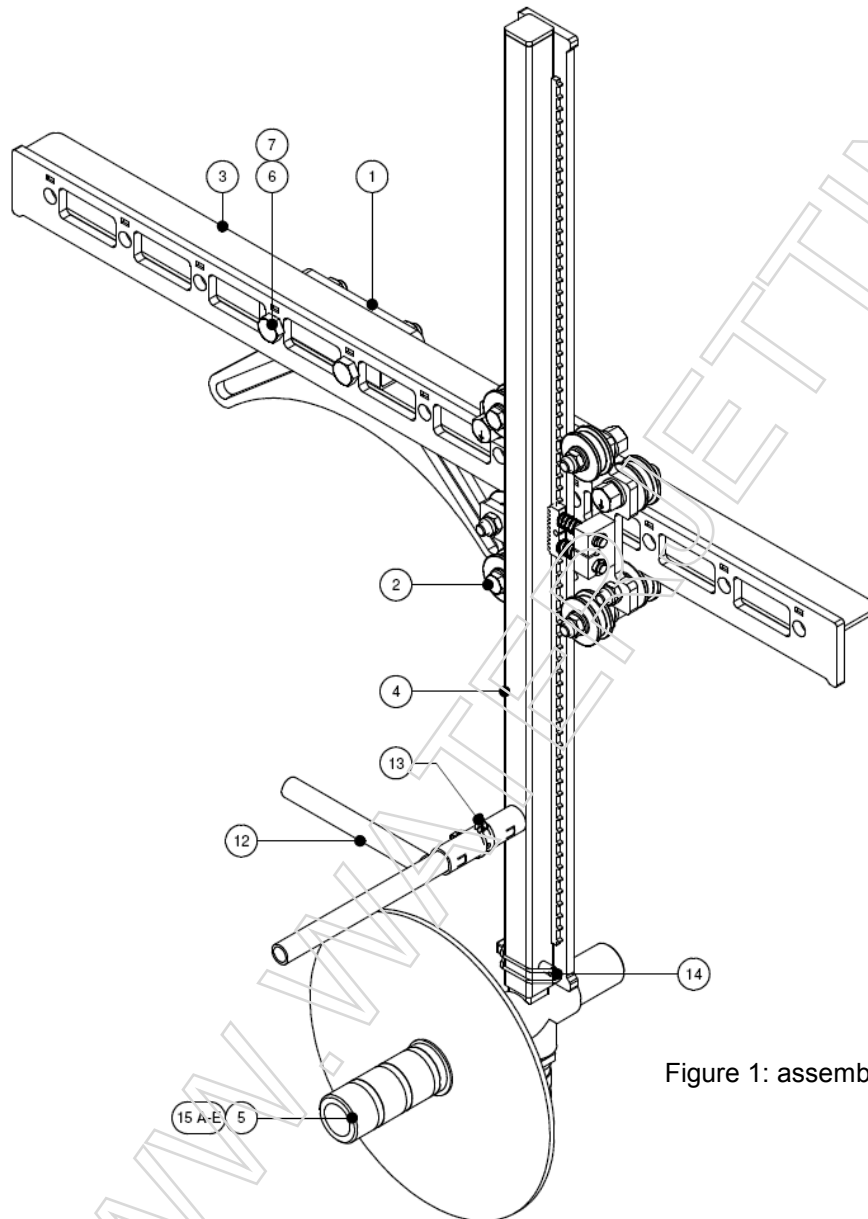
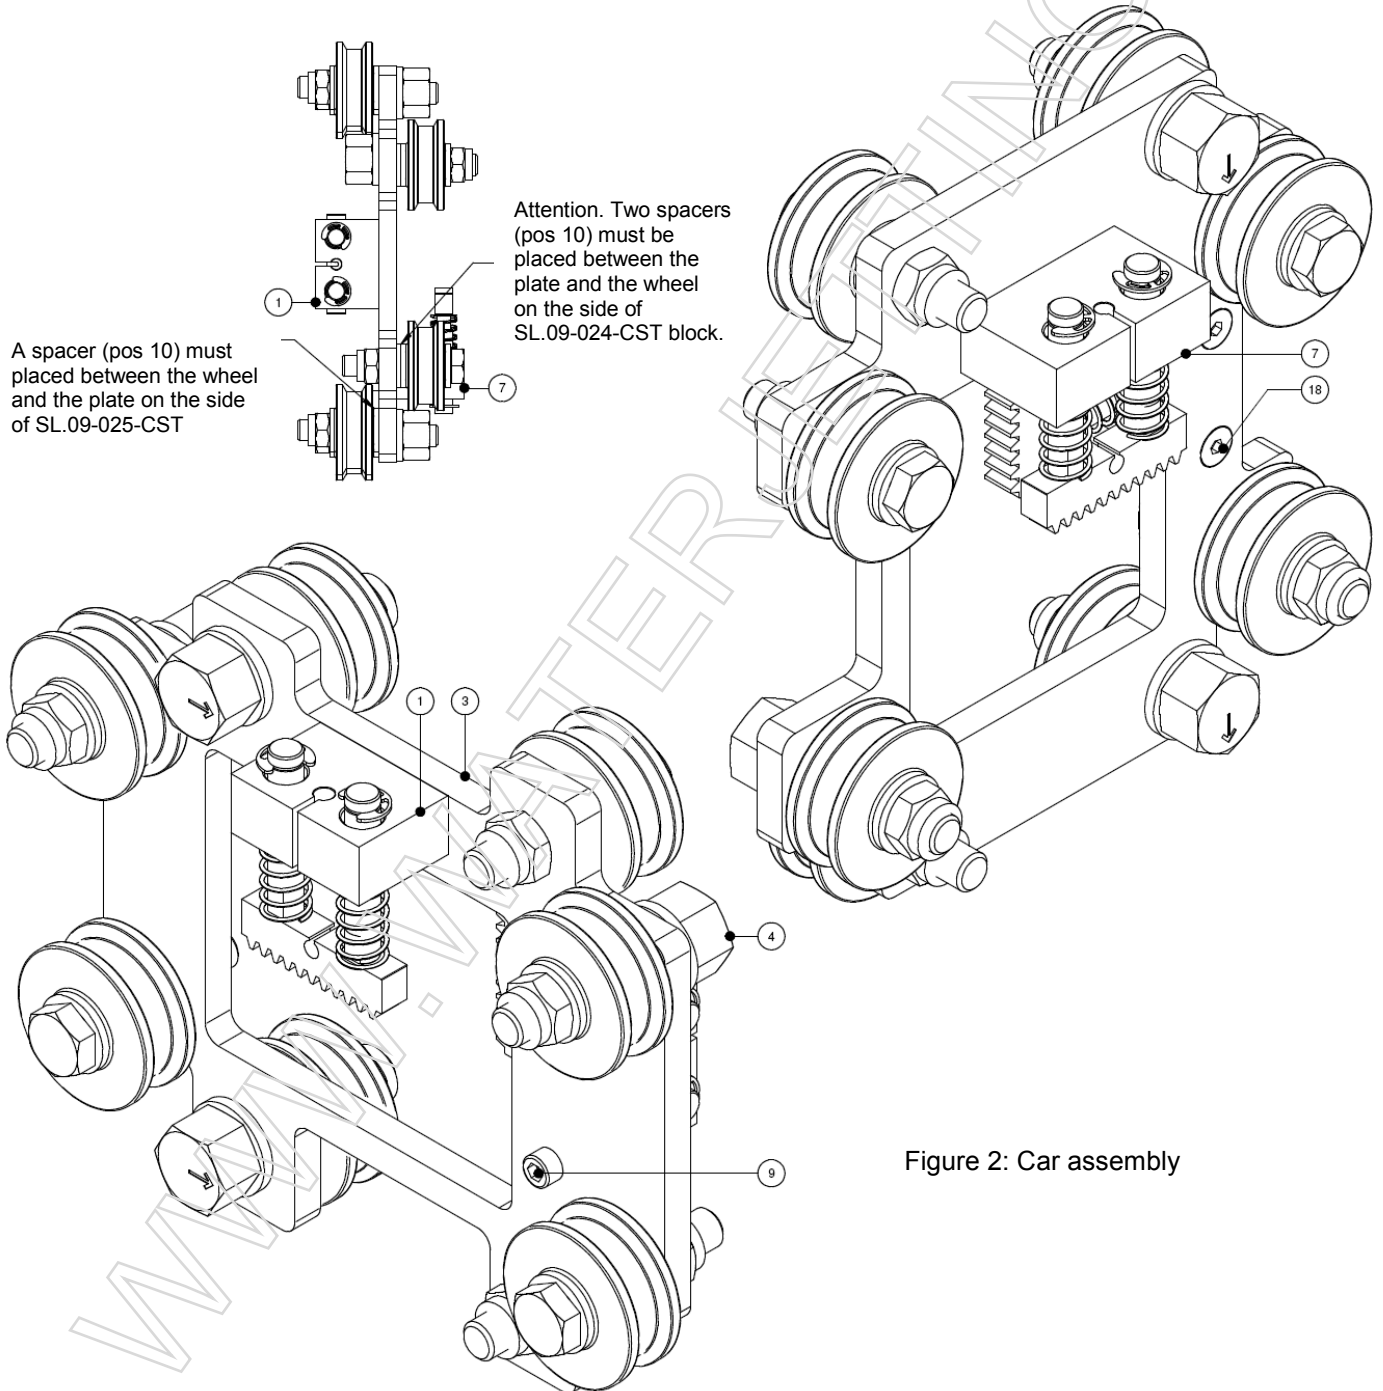
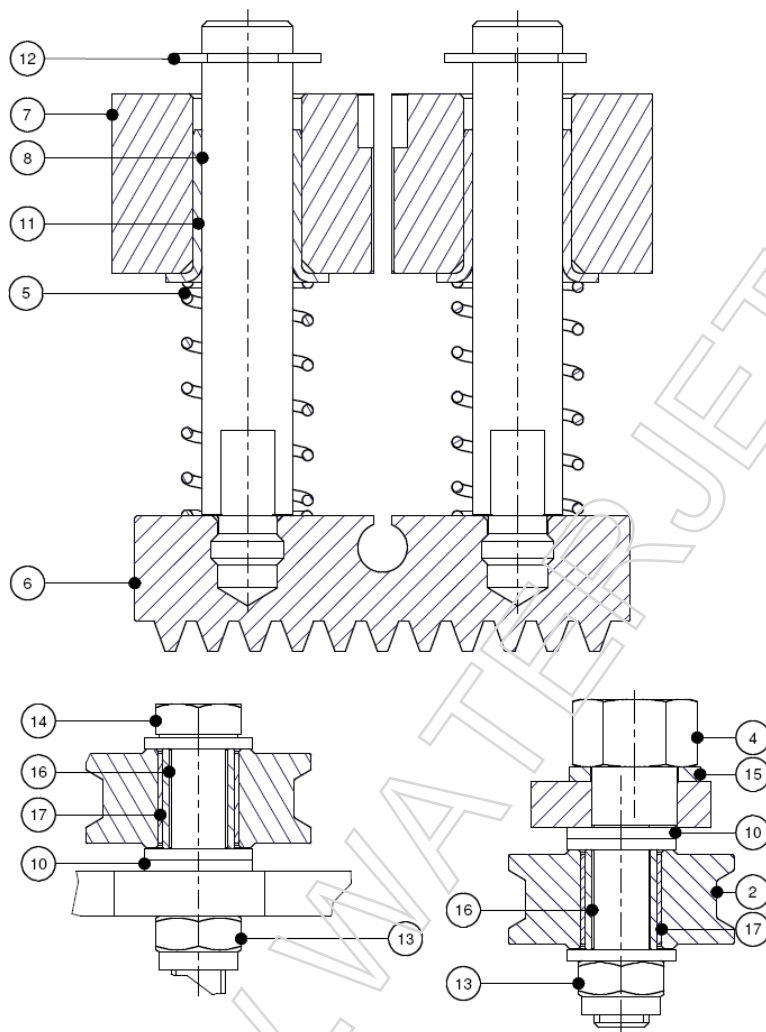
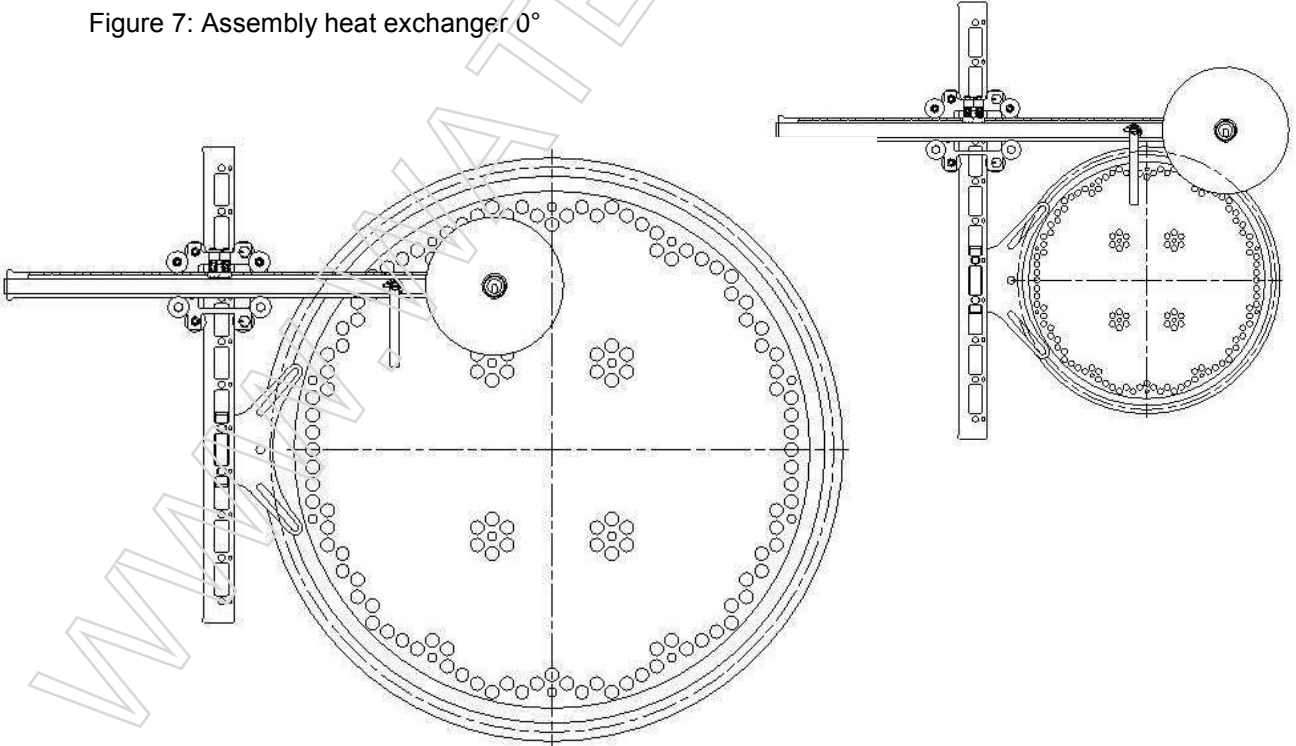

Figure 1: assembly drawing
Figure 2: Car assembly
Figure 3: clamp assembly
Figure 8: Assembly heat exchanger 180°
* Position numbers 8 – 12 (operating handles, cables and grips), and position 16 – 17 (clamps and storage case) are not shown on figure 1.
2.1 Parts list of figure 1
Attention. Two spacers (figure 3: number 10) must be fitted on the side of SL.09-024 (figure 3: number 7). One spacer (figure 3: number 10) must be placed on the side of SL.09-025 (figure 2: number 1). See figure 1 for the assembly.
2.4 Parts list of figure 2 and 3
- 3a Mount the assembly plate (figure 1: number 1) onto the heat exchanger. This can be done directly or by using the clamps (figure 1: number 16) depending on the situation.
- 3b. Mount the fixed guide (figure 1: number 3) on the assembly plate.
- 3c. Turn the eccentric clamping bolts (figure 3: number 4) so that the arrow points downwards. It now has maximum clearance.
- 3d. Mount the transverse guide (figure 1: number 4) over the fixed guide (figure 1: number 3)
- 3e. Turn the eccentric bolts (figure 3: number 4) so that the clearance is minimal and the carriage (figure 3) can move easily over the transverse guide (figure 1: number 4).
- 3f. Check the clearance on the transverse guide (figure 1: number 4). Tighten the eccentric clamping bolts (figure 3: number 4) if necessary.
1. The fixed guide (figure 1: number 3) can be moved over the holes in respect to the assembly plate (figure 1: number 1)
2. The assembly plate (figure 1: number 1) can be placed in any position (0° - 360°).
Placing the assembly plate (figure 1: number 1) between 0° (figure 7) and 180° (figure 8) is recommended.
The handgrip (figure 1: number 12) can be turned so that the operation is horizontal again for ease of use. Take the locking clip (figure 1: number 13) out and turn the handgrip (figure 1: number 12) to the correct position and mount the locking clip (figure 1: number 13) again. Adjustment is possible in steps of 90° .